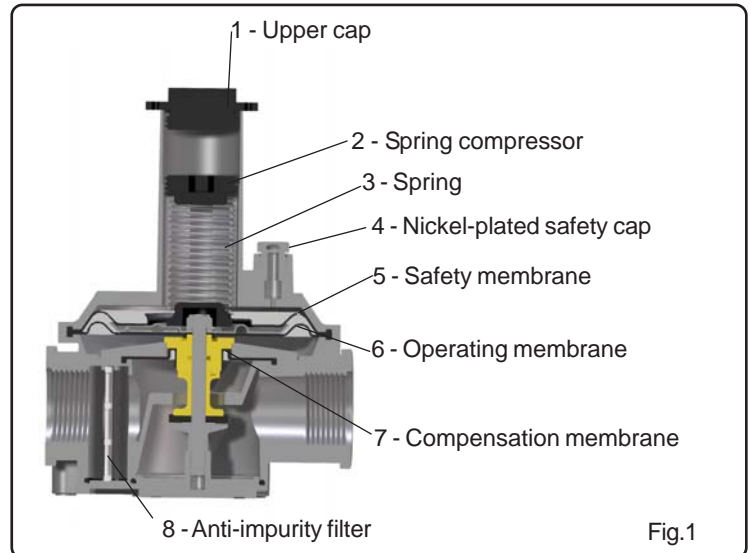

Fig.1
GAS GOVERNOR have three membranes fitted inside them a operating membrane (6), a compensation membrane (7) and a safety membrane (5) (refer to Fig. 1).
Unscrew the upper cap to gain access to the spring compressor (1) (Fig.1). The outlet pressure is regulated by rotating the spring compressor (2) (Fig.1).